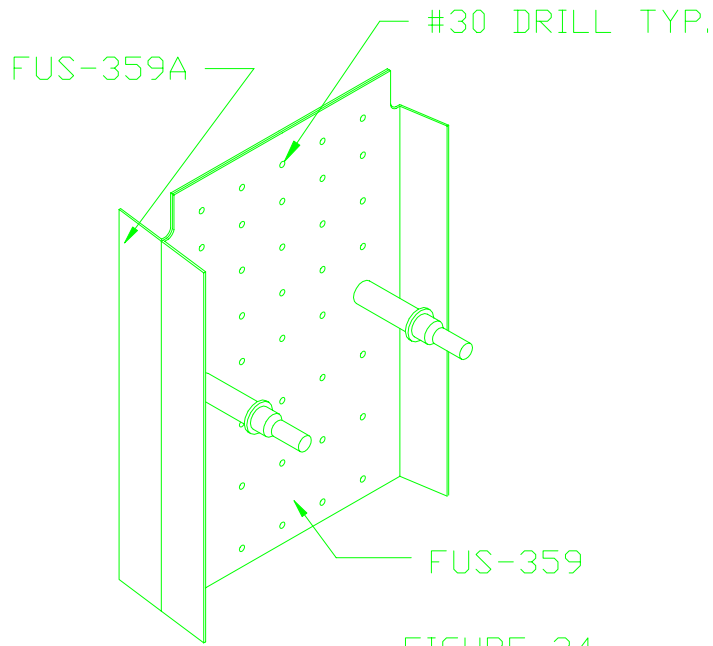

FIGURE 24
85) Cleco the FUS-359 and FUS-359A bulkheads together using the #11 tooling holes. Drill out all holes to #30. Figure 24